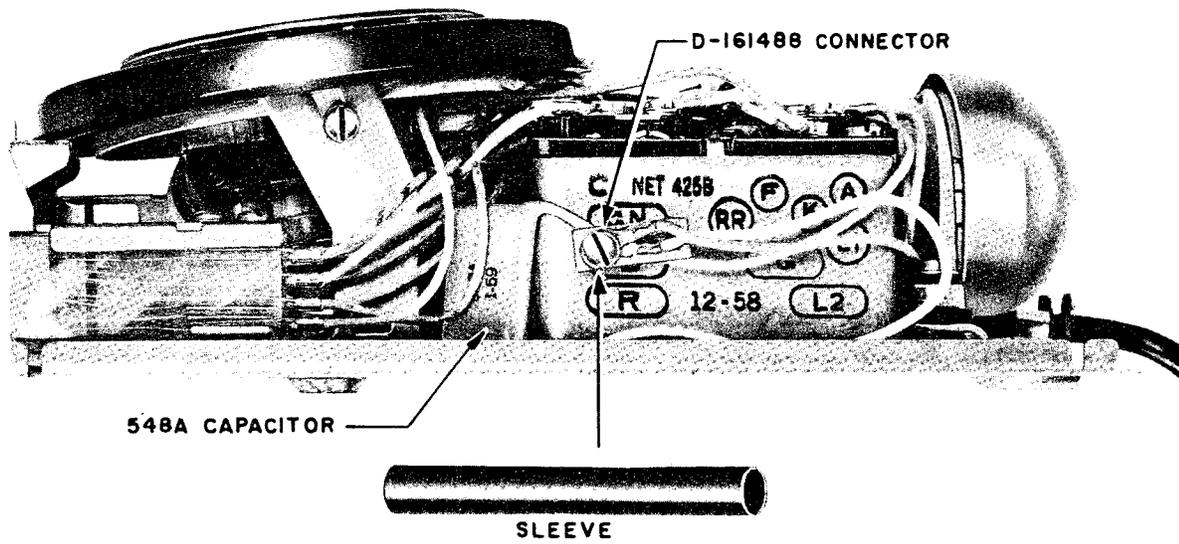

Fig. 12 — Capacitor and Leads
- 9.07 Dress and store capacitor and all leads in a convenient and trouble-free position (see Fig. 12).